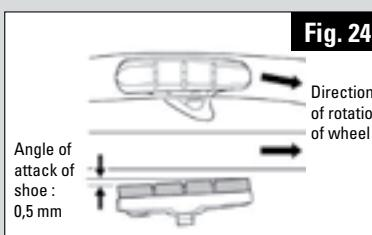

Fig. 24
2. Adjusting shoe positions (4mm Allen key, Fig. 24).